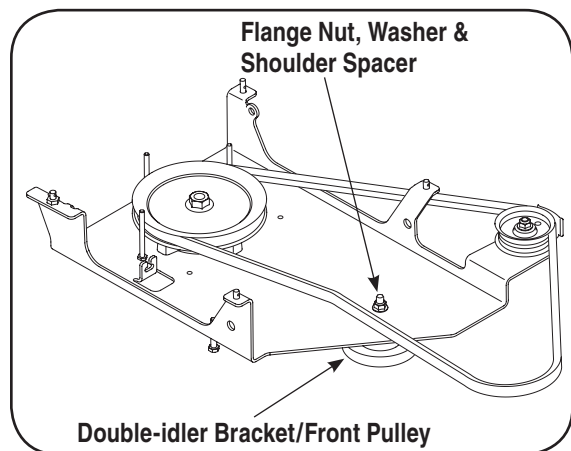

Figure 5
1. Remove the flange nut, washer and shoulder spacer which secures the double-idler bracket to the undercarriage. See Figure 5.